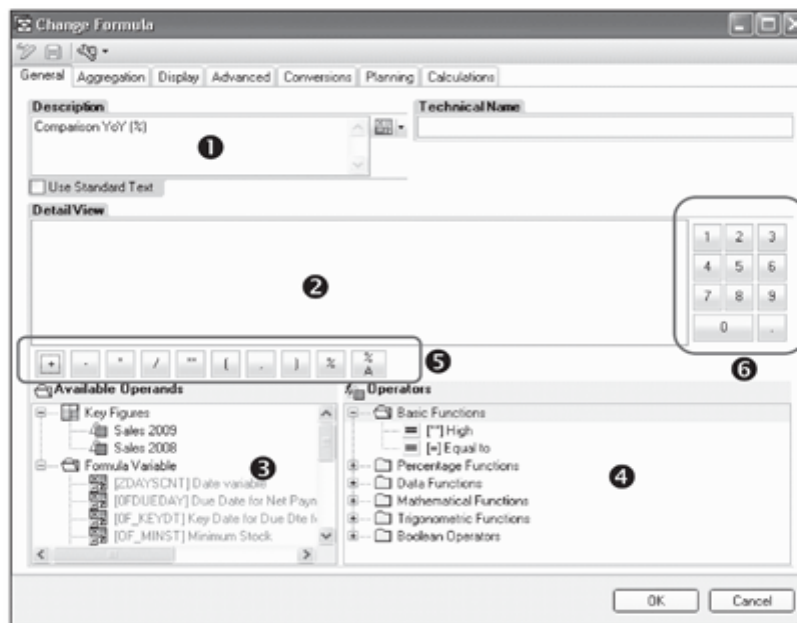

Figure 9.59 Formula Editor
This action creates a new formula component in the key figure structure. To define the calculation for this formula, double-click or select Edit from the context menu (❷). The formula editor screen appears in the pop-up where you can define the logic (see Figure 9.59).
Maintain the description of the component on this screen (❶ of Figure 9.59).